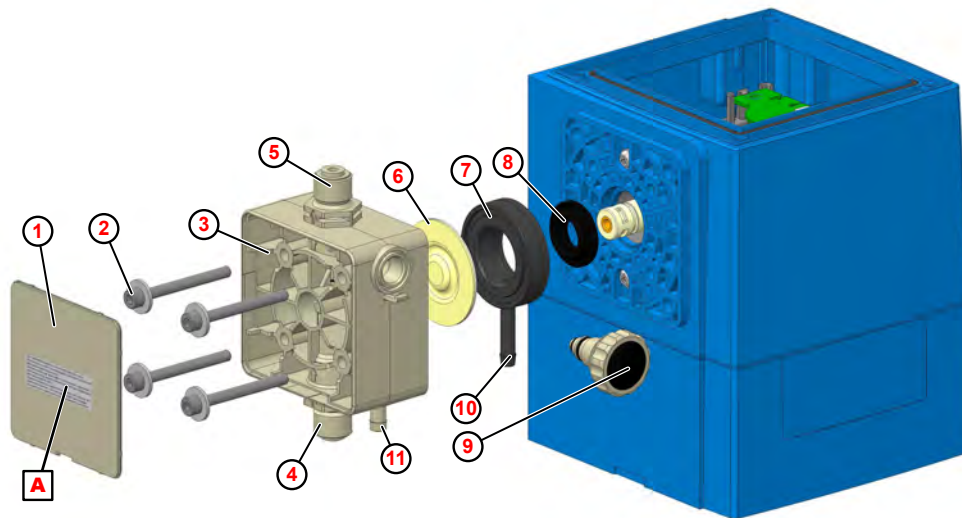

Fig. 23: Replacing the pump head, diaphragm and protective diaphragm
1. ➤ Unscrew the suction and pressure valve ( Fig. 23 , ④ and ⑤ ).
2. ➤ Remove the venting screw ⑨ (only if changing the pump head).
3. ➤ Remove the cover plate ① on the metering head.
4. ➤ Loosen the pump head screws ② and remove.
5. ➤ Remove the pump head ③ .
6. ➤ Unscrew and remove the diaphragm ⑥ .
7. ➤ Take out the intermediate plate ⑦ .
8. ➤ Remove the protective diaphragm from the plunger ⑧ .
10. ➤ Place the intermediate plate so the venting outlet ⑩ is pointing downwards.